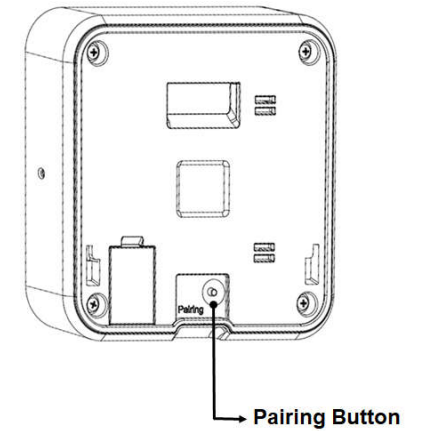

Figure 2
3. Press the Pairing button on the back side of the device (figure 2).